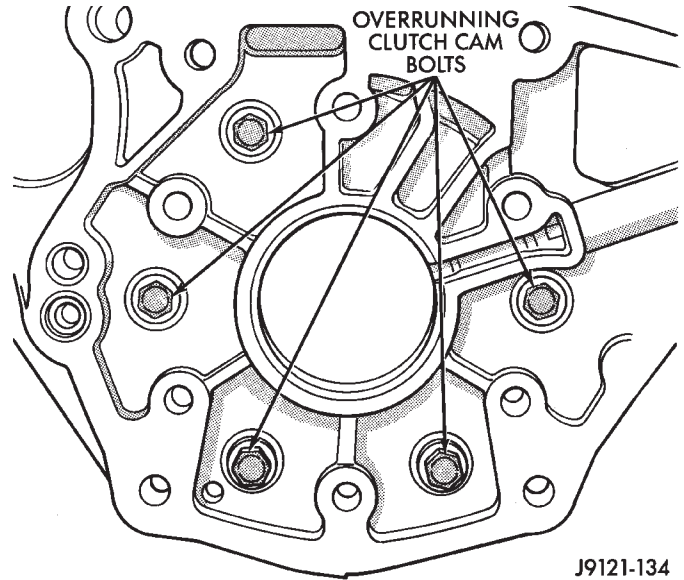

Fig. 87 Overrunning Clutch Cam Bolt Locations
(29) Remove bolts attaching overrunning clutch cam and low-reverse drum to transmission case (Fig. 87).